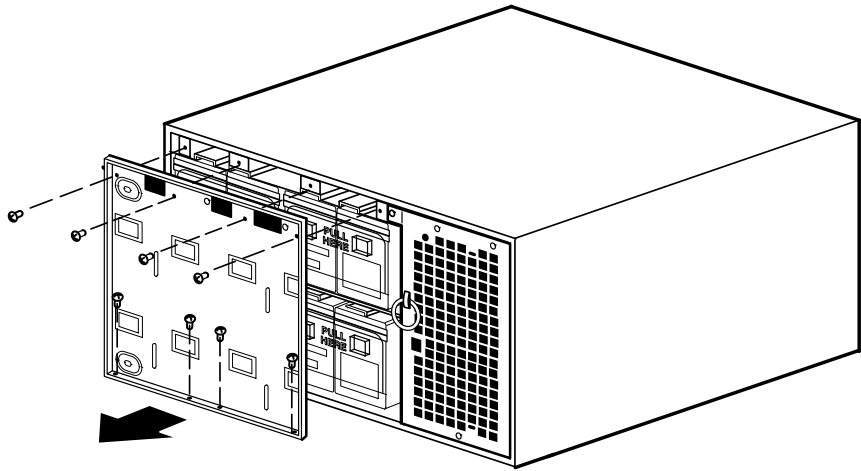

Figure 83. Removing the UPS Battery Cover Plate
3. Remove the eight screws on the battery cover plate and retain. Remove the plate. See Figure 83.
10. Remove the eight screws on the battery cover plate and retain. Remove the plate. See a similar removal in Figure 83 on page 122.